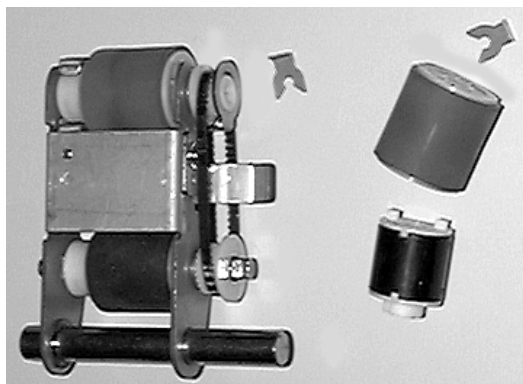

Figure 4-45 Printer Pick Roller Kit
1. Unpack the new printer pick roller kit (Product Number: C5633A). See Figure 4-45.